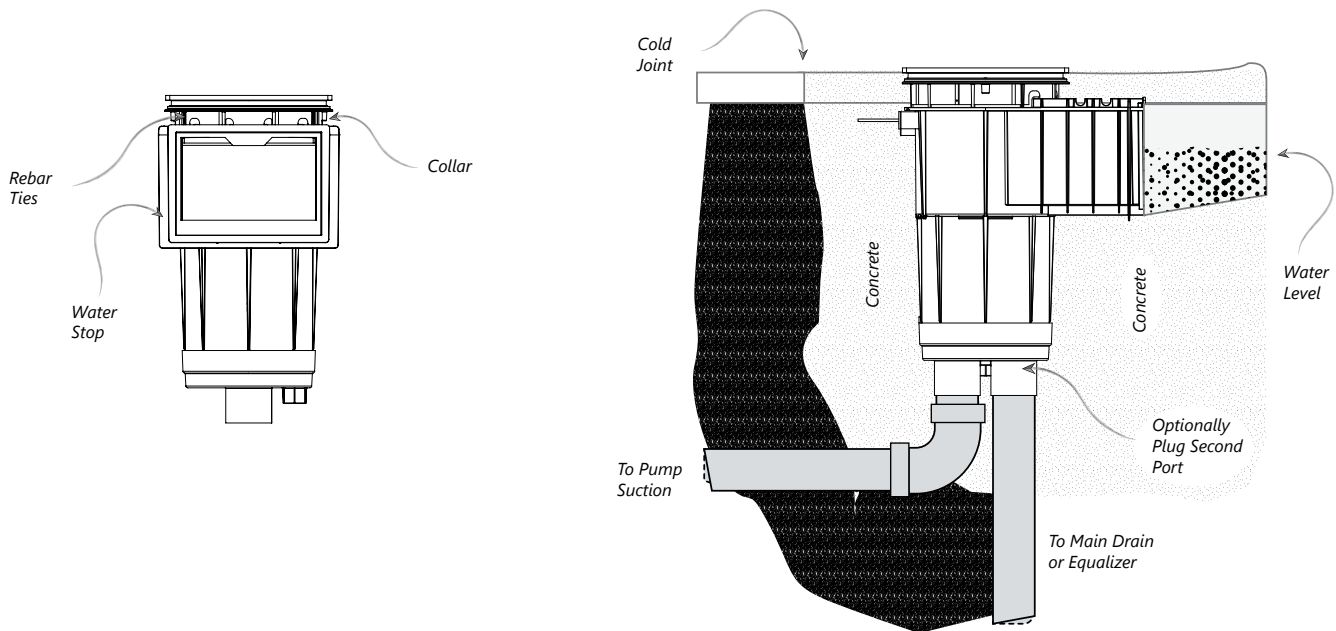

FIGURE 1
- NOTICE: When the skimmer is formed into the concrete shell of the pool it should be surrounded by at least 4" of structural concrete in a monolithic pour, using a cold joint as shown in installation drawings (Fig. 1).